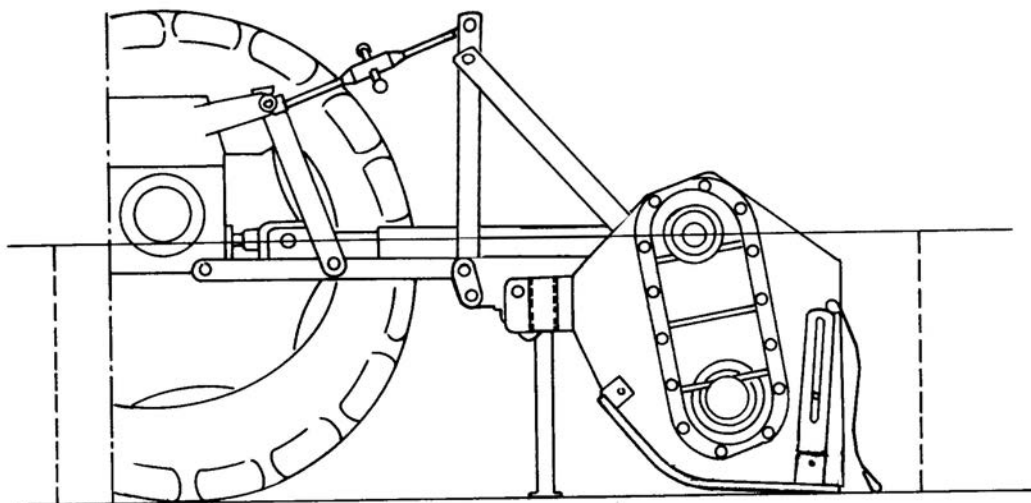

Fig. 10 - Correct work position of the tiller. A 1 to 2 degree rearward tilt is acceptable.
4. Attach the top link. Adjust it so the tiller is as near parallel to the ground as possible. A 1 to 2 degree rearward tilt is acceptable (**see fig. 10**).